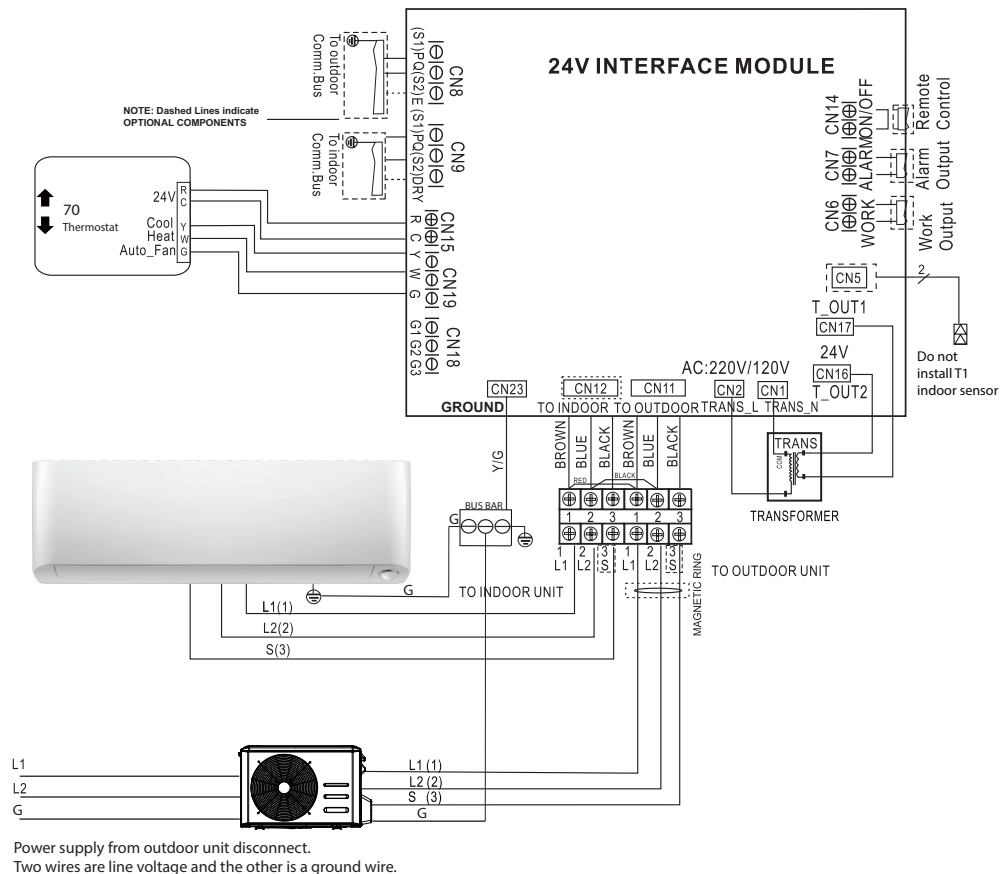

Fig. 11 — Wiring Diagram
1. Wire W2 from the thermostat directly to the FV4 fan coil. See Figure 11 - FV4C Fan Coil Wiring with 1- Speed Heat Pump (page 7) in the FV4C Installation Instructions manual.